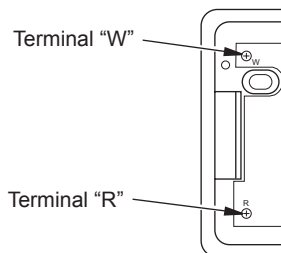

Figure 21 - Thermostat Base Terminals "W" and "R"
7. Connect one bare wire end to each terminal ("W" and "R") of the thermostat base (see Figure 21).